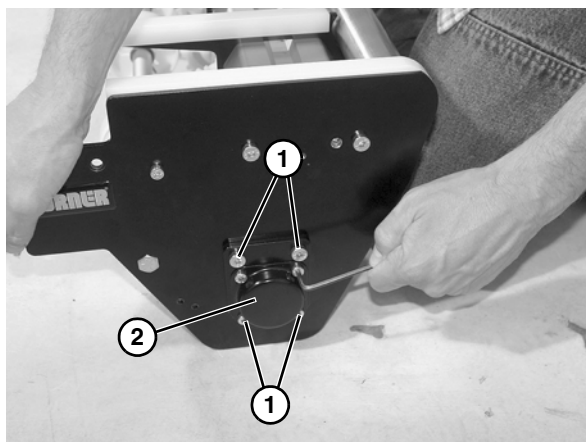

Figure 51
7. On the non-drive side, remove four socket head screws (Figure 51, item 1) and cover (Figure 51, item 2).